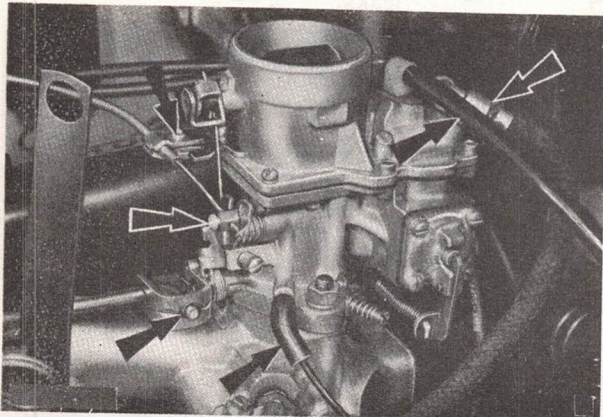

Fig. 30. Items to be disconnected when removing carburettor (manual choke variant shown).
3. Manual choke variants, disconnect choke inner and outer cable from carburettor, Fig. 30.